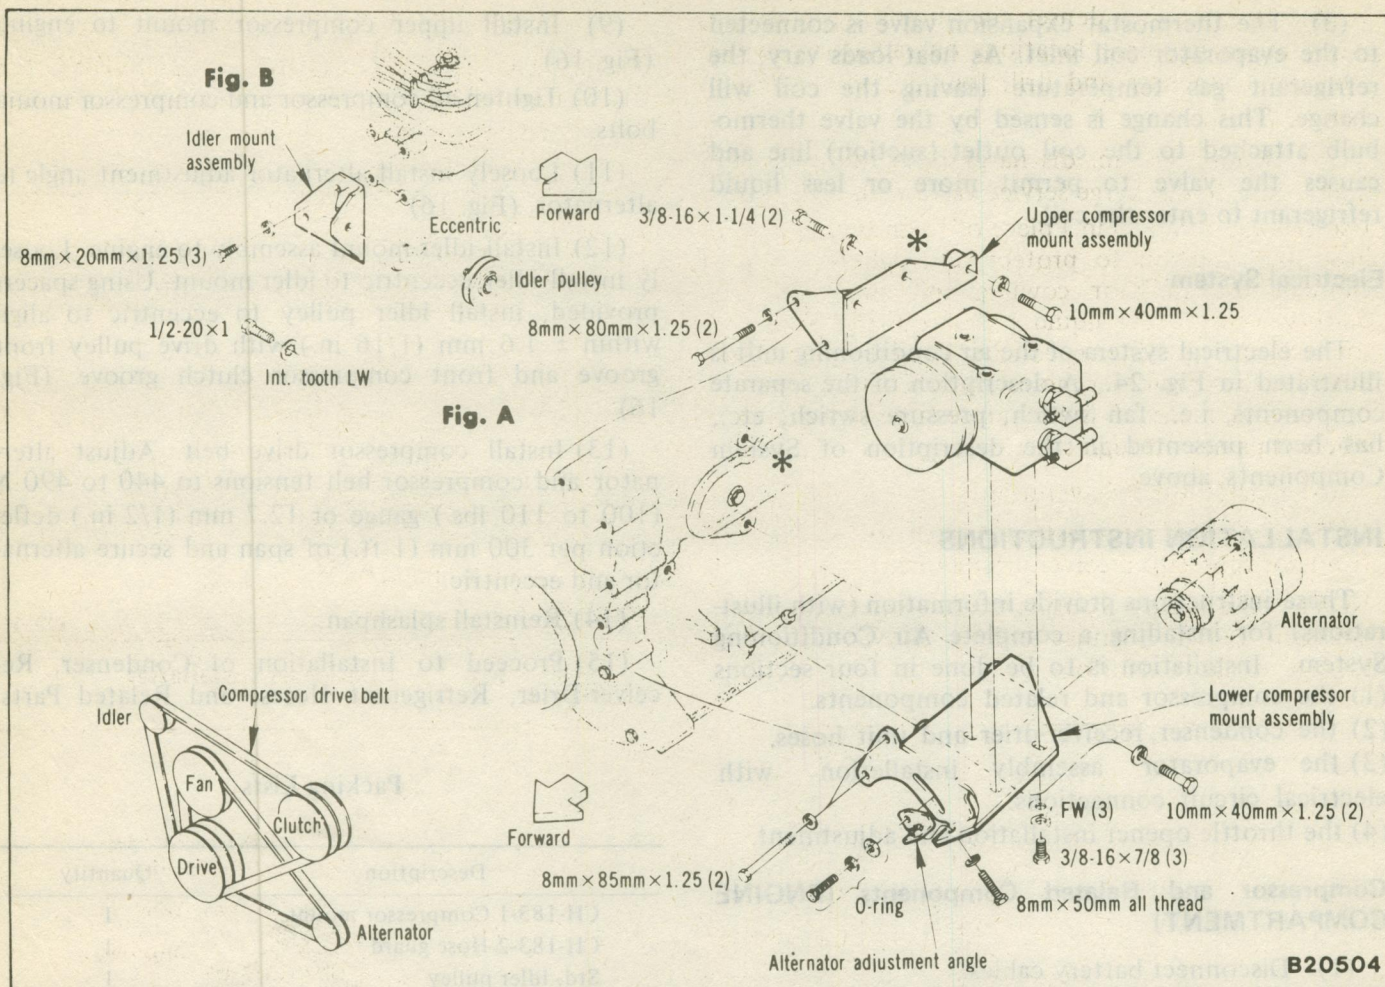

Fig. 16 Compressor Mounting
- (1) Disconnect battery cables.
- (2) Remove and retain splashpan.
- (3) Remove and discard alternator adjusting arm. Retain hardware. (Belt removal is not necessary).
- (4) Hold upper and lower compressor mounts in mounting positions and determine bolts to be removed. Remove these bolts. (Fig. 16)
- (5) Install lower compressor mount on engine. (Fig. 16)
- (6) Secure clutch to compressor according to clutch manufacturer's instructions.
- (7) Loosely install upper compressor mount to compressor. (Fig. 16)
- (8) Loosely install compressor and upper mount assembly on lower mount assembly. (Fig. 16)
(9) Install upper compressor mount to engine. (Fig. 16)
(10) Tighten all compressor and compressor mount bolts.
(11) Loosely install alternator adjustment angle to alternator. (Fig. 16)
(12) Install idler mount assembly to engine. Loosely install idler eccentric to idler mount. Using spacers provided, install idler pulley to eccentric to align within ± 1.6 mm (1/16 in.) with drive pulley front groove and front compressor clutch groove. (Fig. 16)
(13) Install compressor drive belt. Adjust alternator and compressor belt tensions to 440 to 490 N (100 to 110 lbs.) gauge or 12.7 mm (1/2 in.) deflection per 300 mm (1 ft.) of span and secure alternator and eccentric.
(14) Reinstall splashpan.
(15) Proceed to Installation of Condenser, Receiver-Drier, Refrigerant Hoses, and Related Parts.